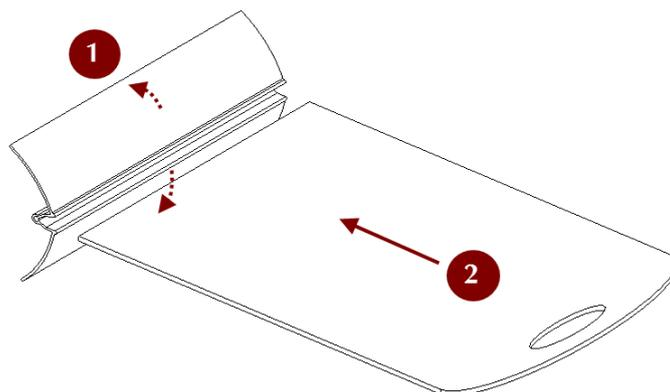

Figure 145: Assembling the rig.
3. Insert the board into the slot, as Figure 145 shows.